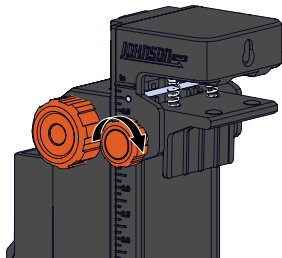

Figure 29
2. To attach the track mount accessory to a track, turn the smaller adjustment knob to open the track clamp. (Figure 29)